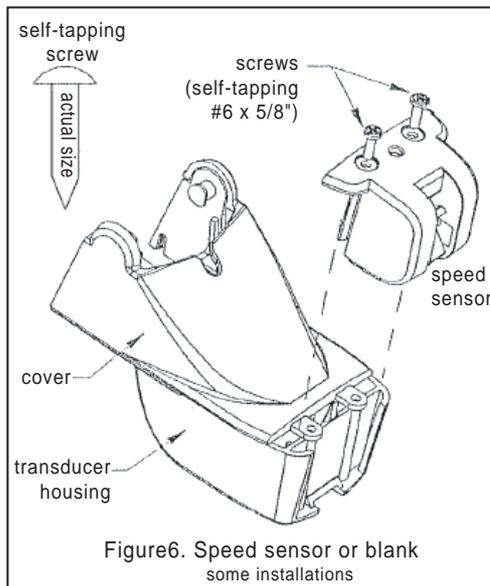

Figure6. Speed sensor or blank some installations
1. Remove the two screws that hold the speed sensor onto the transducer housing (see Figure6).
5. Insert the side rails of the speed sensor or blank into the channels on the back of the transducer housing (see Figure6). Slide it downward. Fasten the speed sensor or blank in place with the two, #6 x 5/8", self-tapping screws.